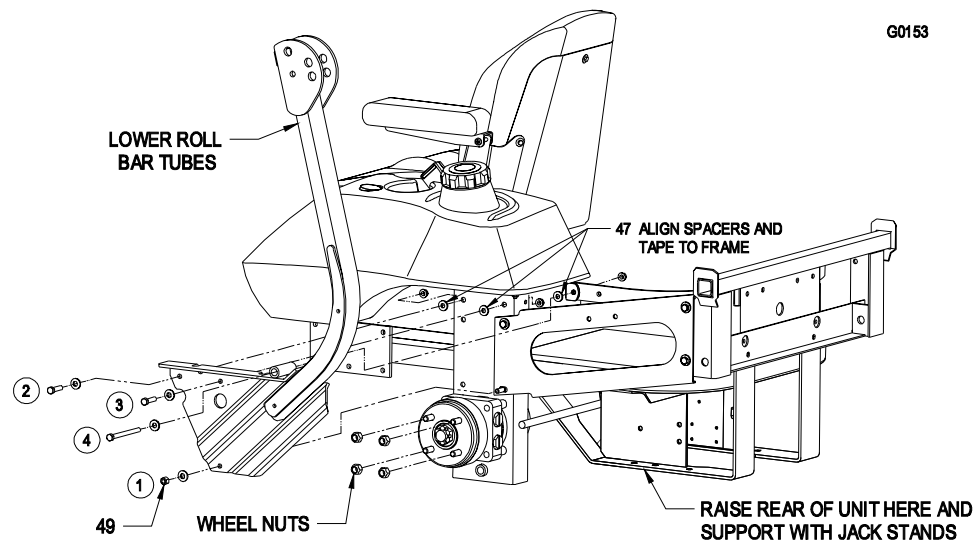

FIGURE 3
- a) Align three spacers (Item 47) on each side and tape with masking tape to the rear frame as shown in Figure 3.
- b) Align lower roll bar tubes along wheel motor channels as shown in Figure 3.
- c) **LOOSELY** install the lower roll bar hardware to the tubes in the following order (Reference Figure 3 for alignment and installation instructions below):